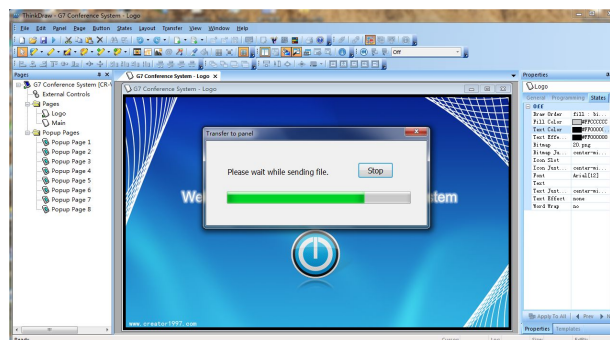
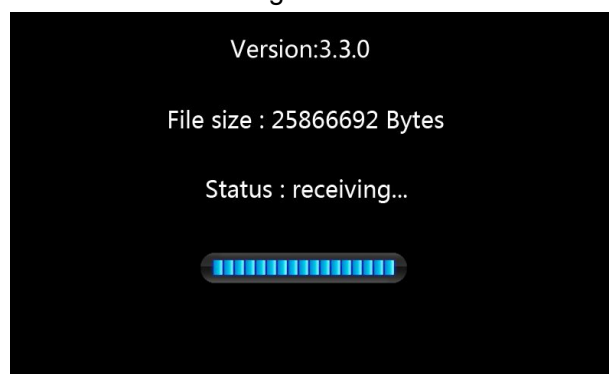

Figure 2-23
Figure 2-24
3. PC editing software ThinkDraw and touch screen will display synchronous data transmission schedule, as shown in Figure 2-23, figure 2-24: